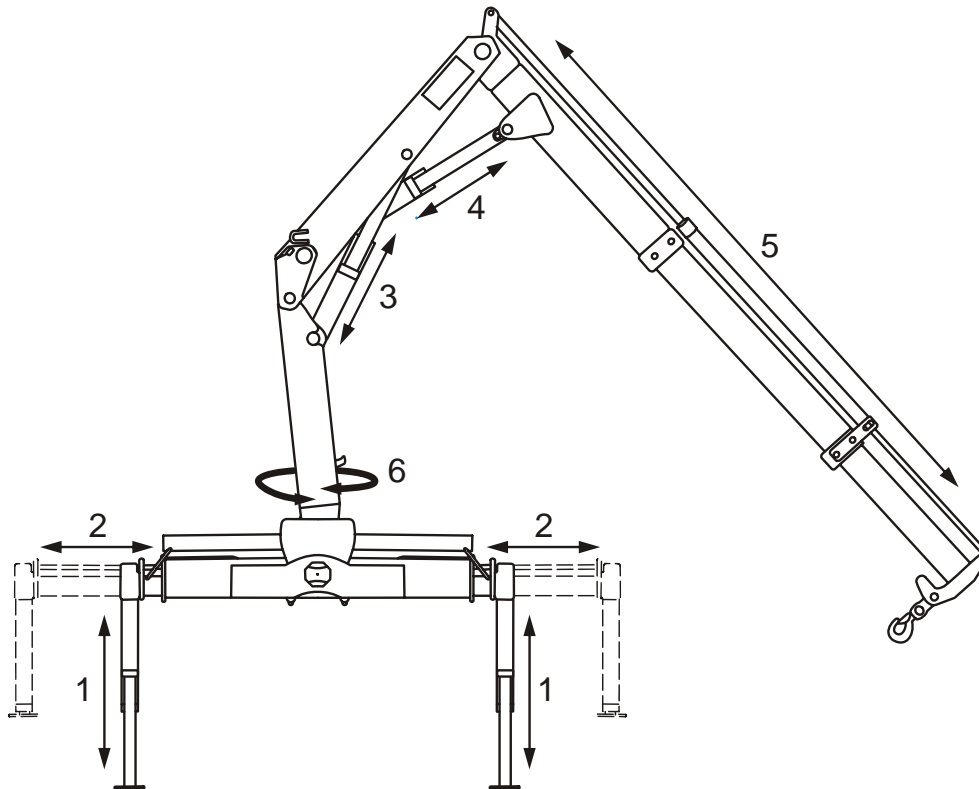

Figure 7 Bleeding Sequence
22. To bleed air from the hydraulic system after repairs, proceed as follows (refer to Figure 7):
- d. Operate the crane and run each hydraulic cylinder out to its end position at least twice. Refer to Figure 7 for the recommended sequence.